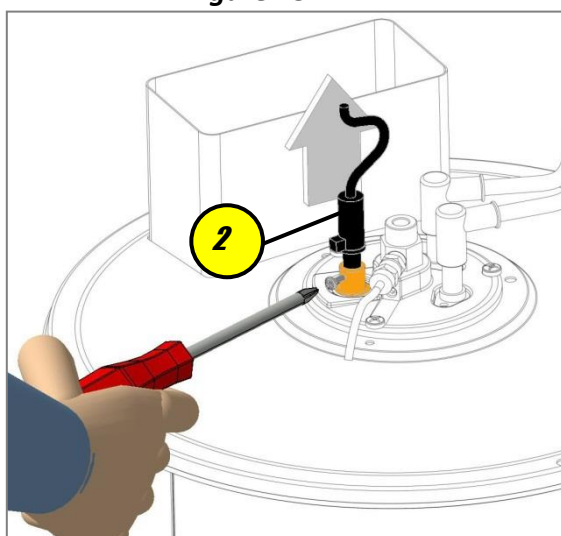

Figure 17
- d.** Remove screw 22 (fig.17); with a star point screwdriver and remove the photovoltaic cell 22 (fig.17)